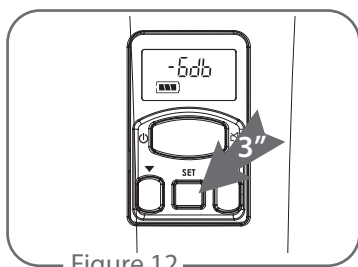

Figure 12
- (1) Press "Set" button ②⑧ for 3 seconds to enter setting window. (Figure 12)
- (2) Short press "Set" until the sensitivity setting window shows.
- (3) Press "▲Up ②⑨" or "▼Down ②⑩" button to select the sensitivity among 12db, 9db, 6db, 3db, 0db, -3db, -6db, -9db, -12db, -15db, -18db.
- (4) After setting, press "Set" again to save the setting.